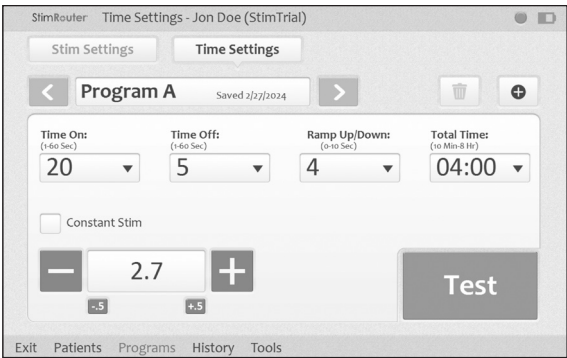

Figure 8-11: Time Settings window
2. The default time setting is constant stimulation. When “Constant Stim” is checked, “Time On” and “Time Off” are disabled; “Ramp Up/Ramp Down” and “Total Time” can be adjusted. **See Figure 8-11.** To change the “Time On” and “Time Off” settings, uncheck “Constant Stim” box and adjust “Time On” and “Time Off” using the drop-down lists.